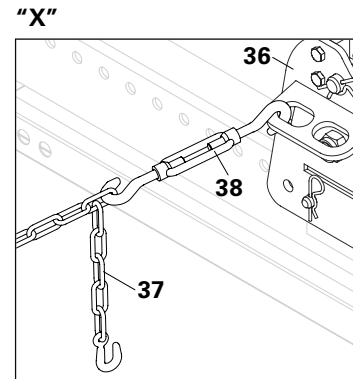

Fig. A10.02d
4. Attach a turnbuckle (38) to a hole in the bracket on the bearer. (Fig. A10.02d)
5. Attach a turnbuckle (38) to the anchor chain (37). (Fig. A10.02d)